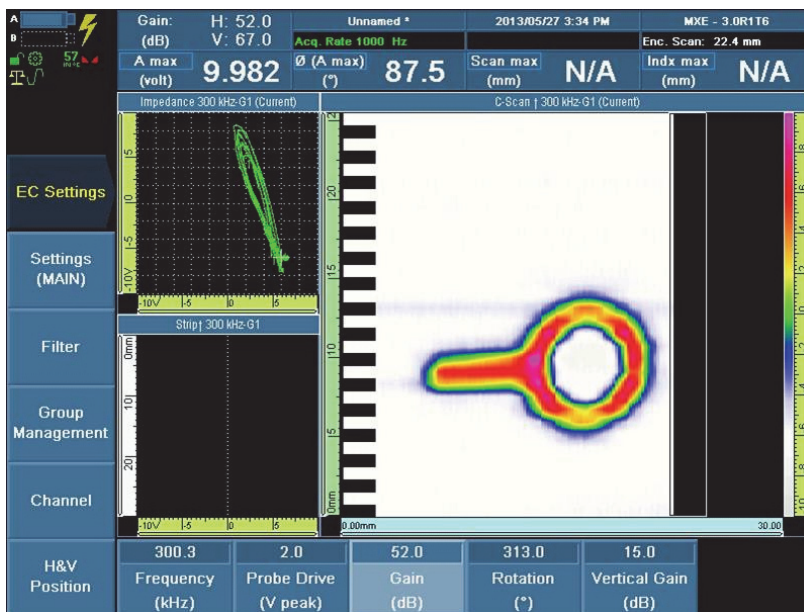

Figure 13-8 Example of a surface breaking crack around a defective fastener
- d) Verify that the good fastener is displayed as a round form and the defective fasteners are displayed as a round form with a point (see Figure 13-8 on page 237).